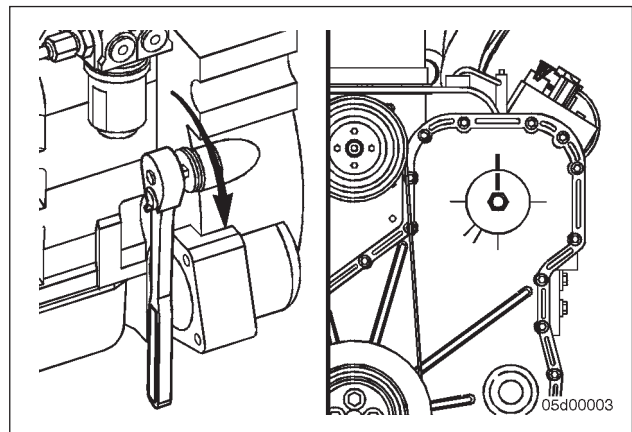

FIG. 9
6. Using the barring tool, Part No. 5299073, rotate the crankshaft to align the mark on the fuel pump gear with the top dead center mark on the gear cover (12 o'clock) (Fig 9).